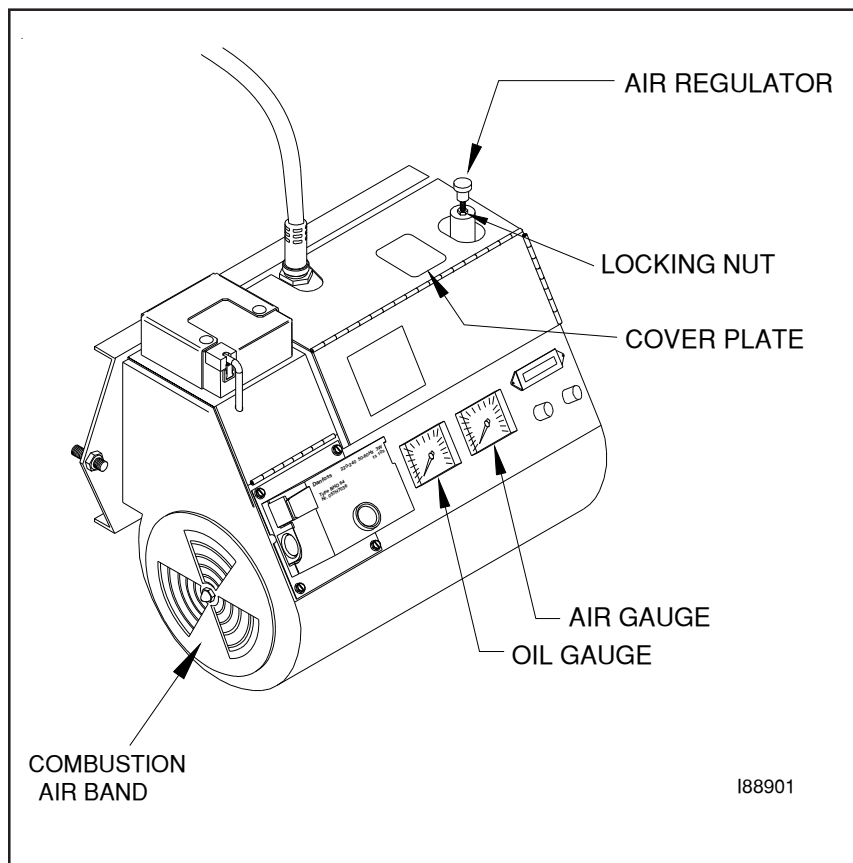

Figure 6A - Component Detail of the CB-500 Burner
4. Refer to Figure 6A to locate the air regulator. Loosen the locking nut on the air regulator.
- Refer to Figure 6A to locate the combustion air band.
- Refer to Figure 6A to identify the combustion air band location on the burner.